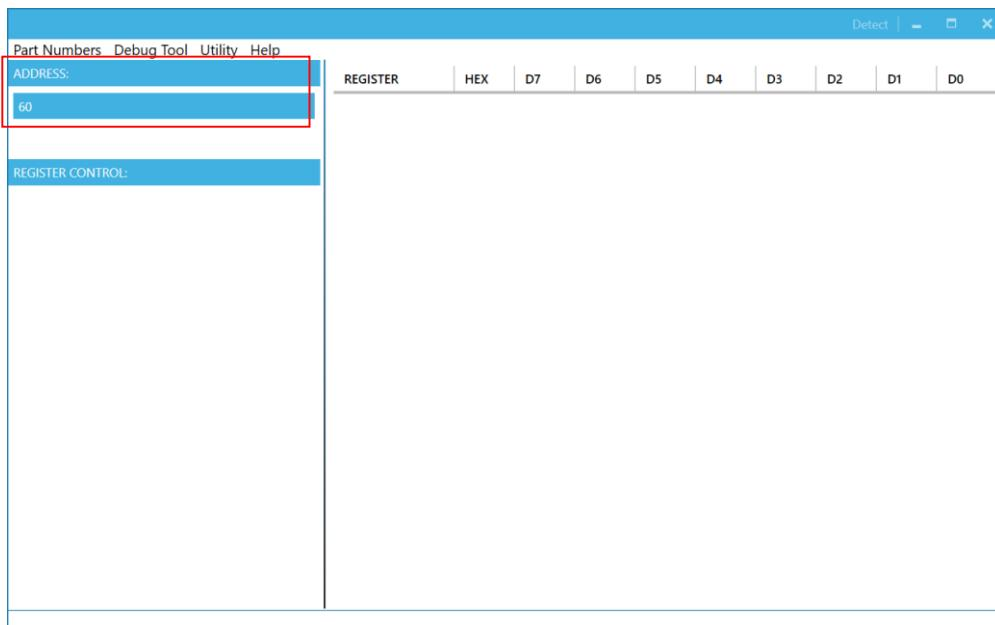

Figure 7: Appearance of Address Shows Successful Connection
- If the connection is successful, the address will be listed in the section titled “Slave Address” (see Figure 7).